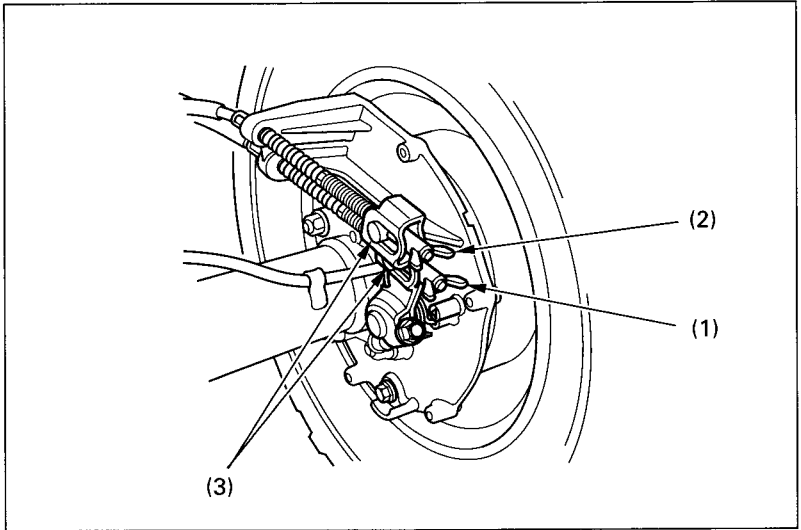

Fig. 4-29 (1) Brake pedal adjusting nut
To adjust the free play, turn the brake pedal adjusting nut (1), (Fig. 4-29), located on the brake operating rod at the rear of the frame. Make sure the cut-out on the adjusting nut is properly seated on the brake arm pin (3).